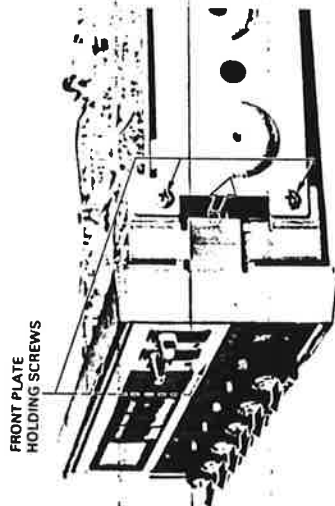

Figure 10
2) Pull the both sides as shown in figure 10.
Remove four screws holding front panel as shown in figure 10.